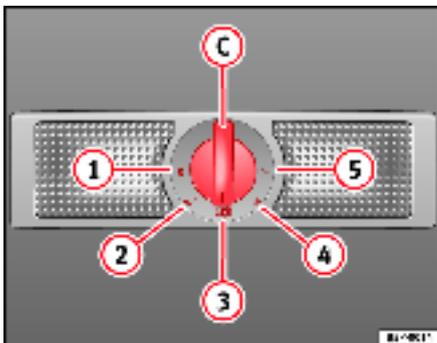

Fig. 76 Interior light
- In switch position ① ⇒ fig. 76, the interior and reading lights are switched off.